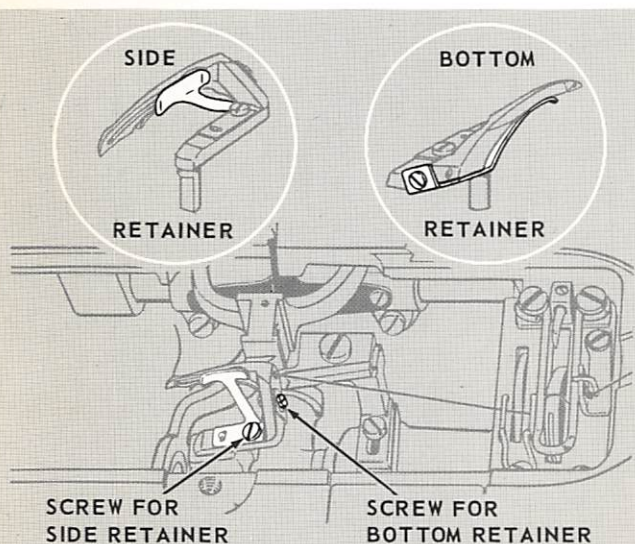

Fig. 31. Adjusting the Looper-Thread Retainers
1. Thread retainer on bottom of looper, shown in Fig. 31, should produce a tension of 10 to 15 grams on # 80 white cotton thread
2. Thread retainer on side of looper (facing operator, as shown in Fig. 31), should produce a tension of 20 to 30 grams, on # 80 white cotton thread.